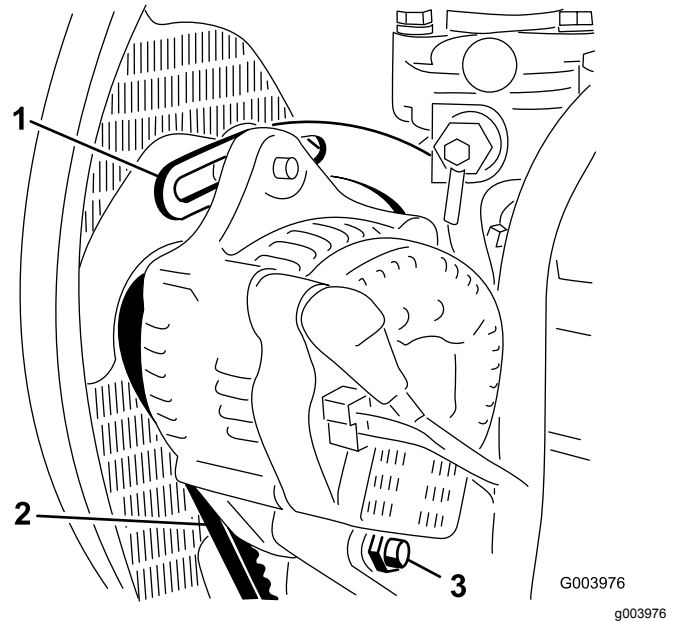

Figure 68
2. Check the tension of the alternator belt by depressing it (Figure 68) midway between the alternator and the crankshaft pulleys with 10 kg (22 lb) of force.
3. Loosen the bolt securing the brace to the engine (Figure 68), the bolt securing the alternator to the brace and the pivot bolt.